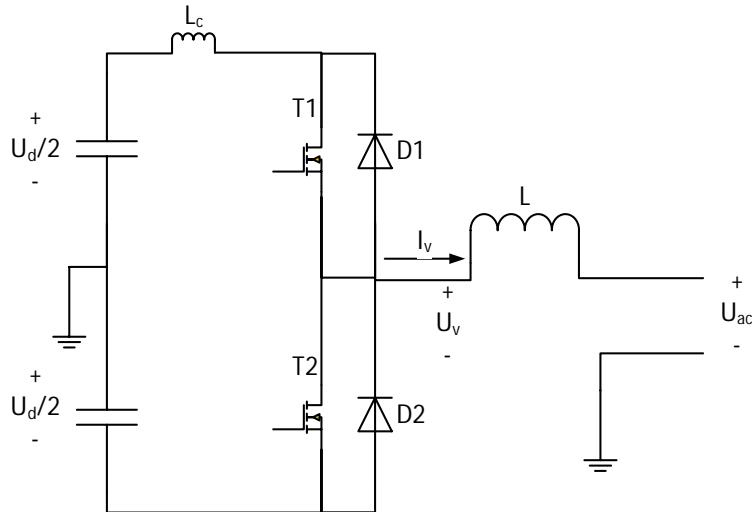
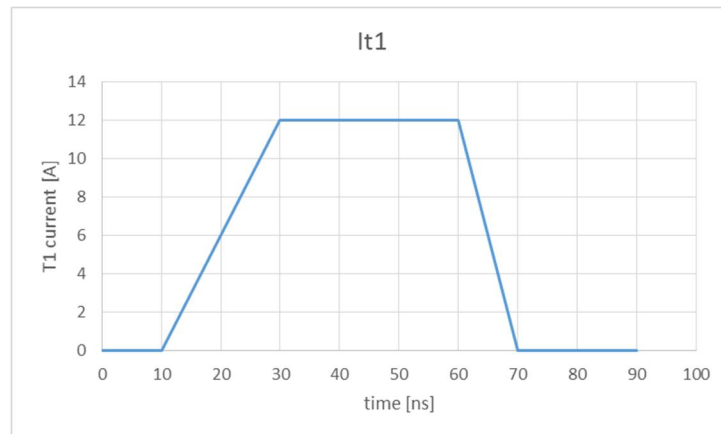

Figure 5
Figure 7
A half-bridge voltage source converter is connected between a dc-source and an ac-load as shown by Figure 5. The control of the switched output voltage is done through pulse width modulation (PWM) with a switching frequency $f_{sw}=950$ Hz, in order to obtain a 50 Hz voltage component with a defined magnitude.
The half-bridge converter in Figure 5 has a parasitic inductance, L_c , between the dc-source and the half-bridge. Figure 7 the switching waveform of the current through the MOSFET switch T1. The current $I_v=12$ A flows through L out of the converter.
- a) Draw the waveform of the voltage across MOSFET T1, related to the current given in Figure 7 and considering the inductance $L_c=40$ nH. The dc-voltage $U_d=110$ V. (4)